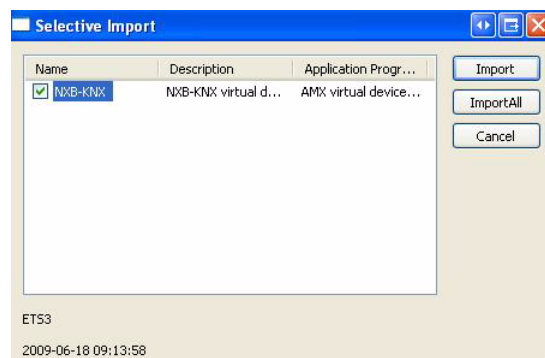

FIG. 23 Selective Import dialog
3. Locate and select the **NXB-KNX Virtual Device.vd4** file, and click **Open**. This action invokes the *Selective Import* dialog (FIG. 23):